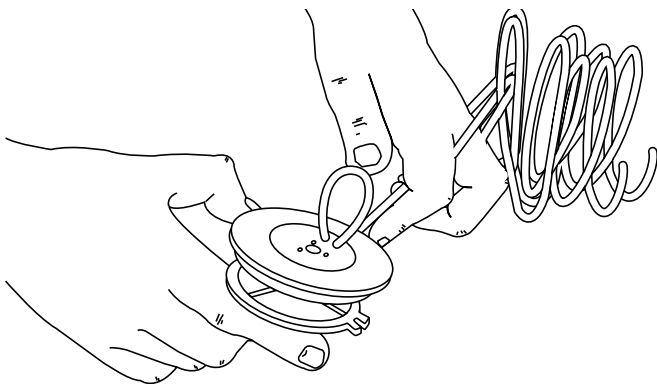

Fig. 25
6. Take approximately 25 feet (7.6 m) of new 0.080 inch diameter trimming line, loop it into two equal lengths. Insert each end of the line through one of the two holes in the inner reel (Fig. 25). Pull the line through the inner reel so that the loop is as small as possible.